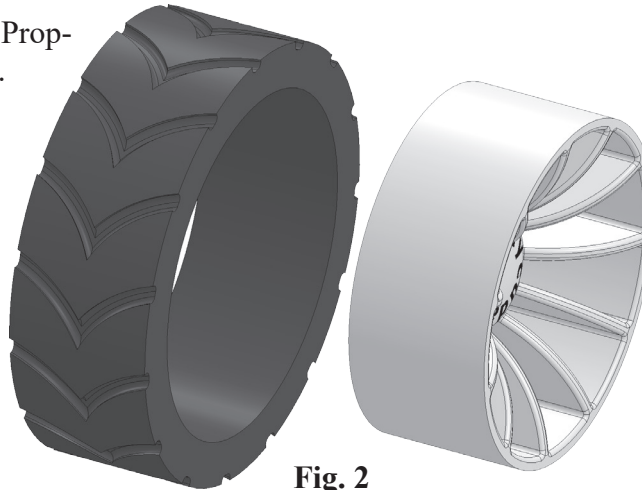

Fig. 2
Step 6. Click approximately where Tire is positioned in **Fig. 2**.